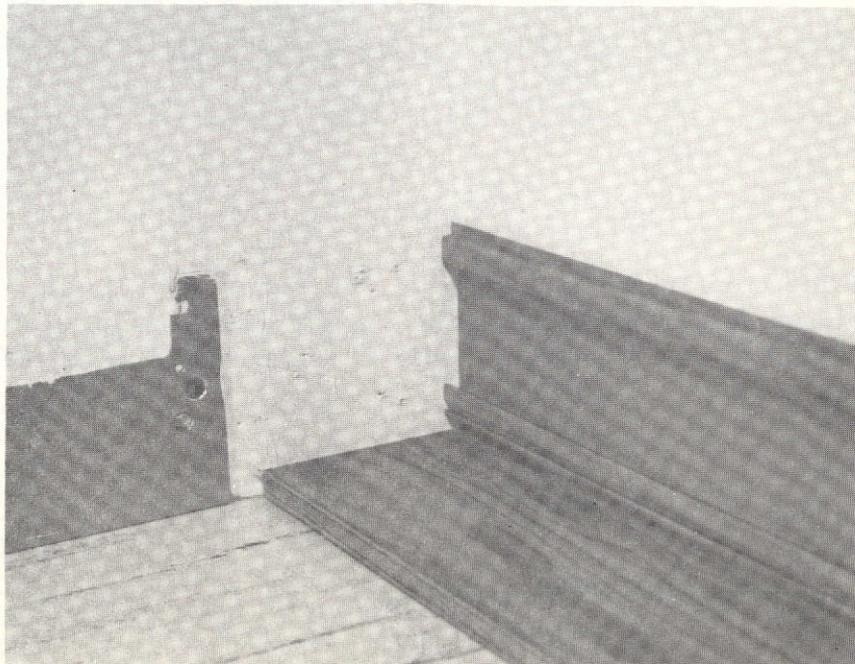

Figure 4. Back Channel on 3/8" Plywood Spacer
4. Place a 3/8" spacer on the floor and against the wall (see Figure 4) to locate the back channel the proper distance from the floor. If the floor is unusually rough, intermittent spacers should be used but kept close enough together to avoid excessive sag.